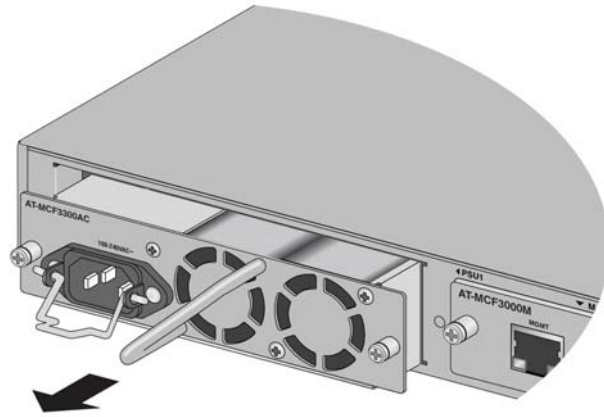

Figure 70. Pulling on the Handle to Disconnect the MCF3300AC Power Supply from the Chassis
5. Pull on the handle to disconnect the power supply from the backplane connector inside the chassis. Refer to Figure 70 on page 111.